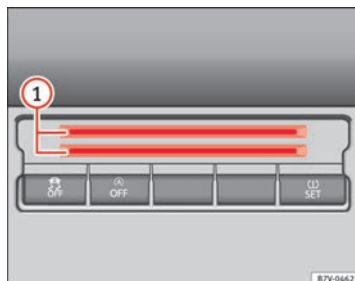

Fig. 107 Centre console, lower section: card compartment
To the bottom of the centre console there is a compartment ⇒ Fig. 107 ① for coins, cards, car park tickets and similar items.